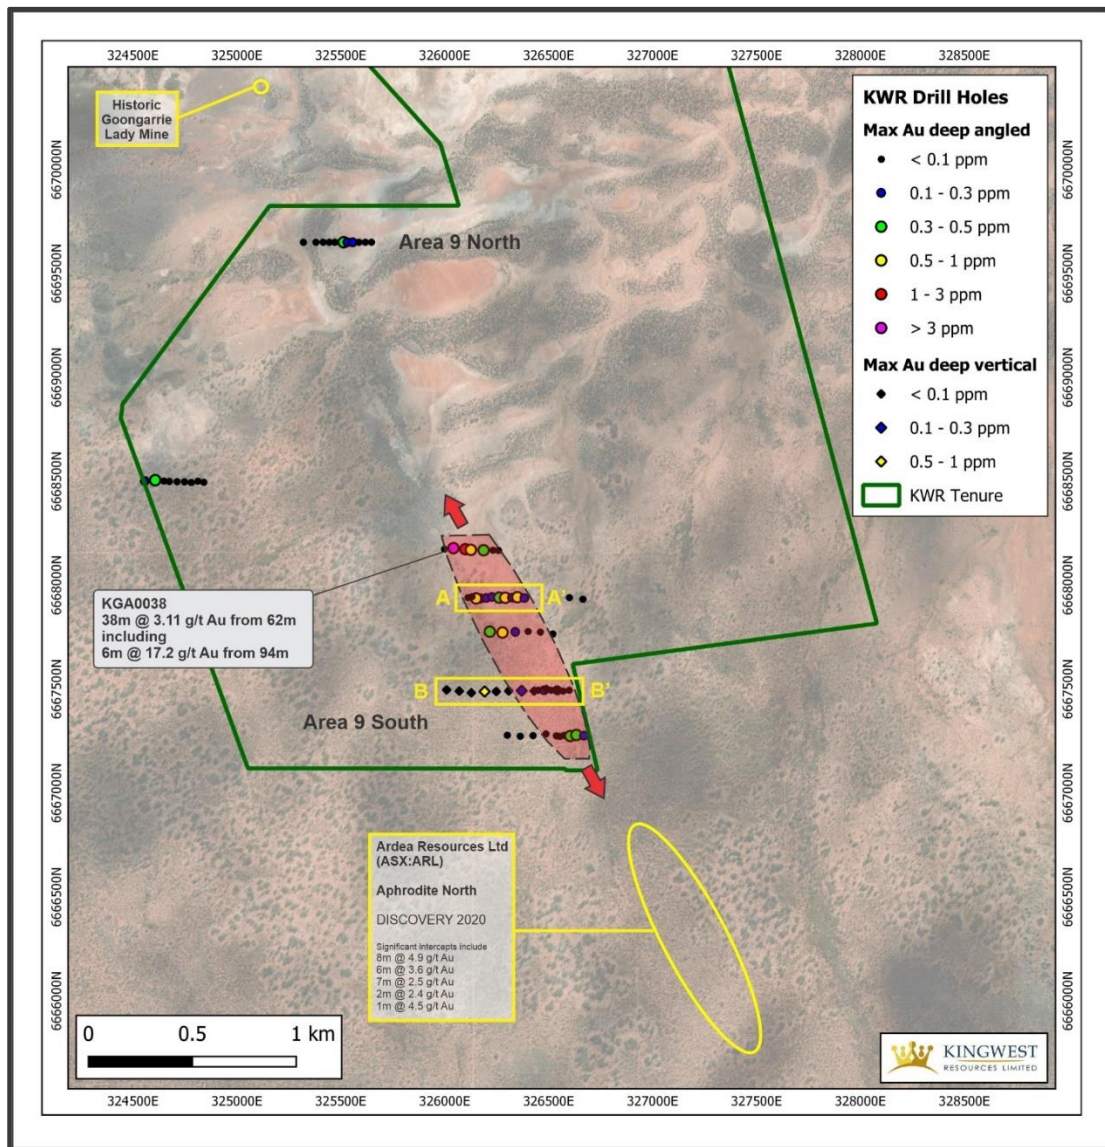

Figure 2: Location of significant drill holes within Target A9, anomalous footprint and cross section locations
At **Target A9** gold mineralisation on five 200m-spaced lines has defined a 1,200m long by 300m wide zone of strongly anomalous gold geochemistry and gold mineralisation that is open along strike to the north and south (Figure 2).
**Target A9 North** (Figure 2) is a dextral offset of the same lower BFG mafic-ultramafic sequence by a pair of NW-trending D4 cross-faults 1km along strike to the south of the Goongarrie Lady gold deposit. Drilling again shows gold depletion in the upper part of the weathering zone, but has intersected a 200m wide zone of anomalous gold up to **4m @ 0.36 g/t Au** in KGA0124 below this. The bottom of hole geology is a sequence of strongly carbonate-altered mafic and ultramafic volcanic rocks. Deeper drilling is required to test this sequence in fresh rock, below the anomalous zone and along strike to the north and south.